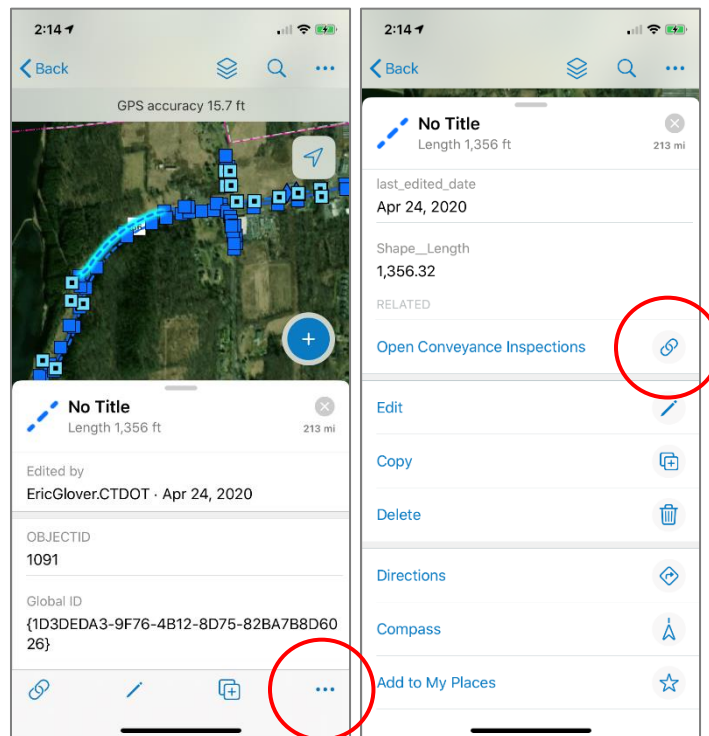

Figure 46. Access feature options in the ArcCollector app.
- Click on the three dots or scroll to the bottom of the attributes to access more features (Figure 46).